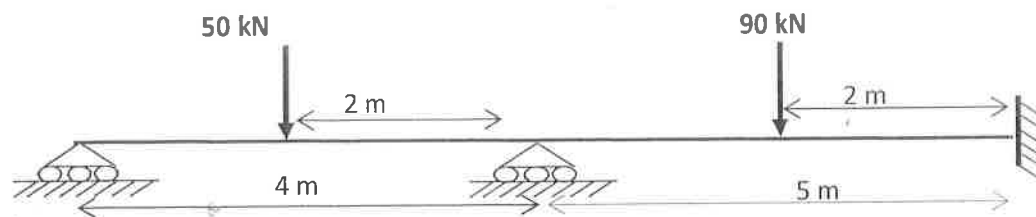

Fig. 2
3. Analyse a beam supported and loaded as shown in Fig. 2, using flexibility method. (8 M)